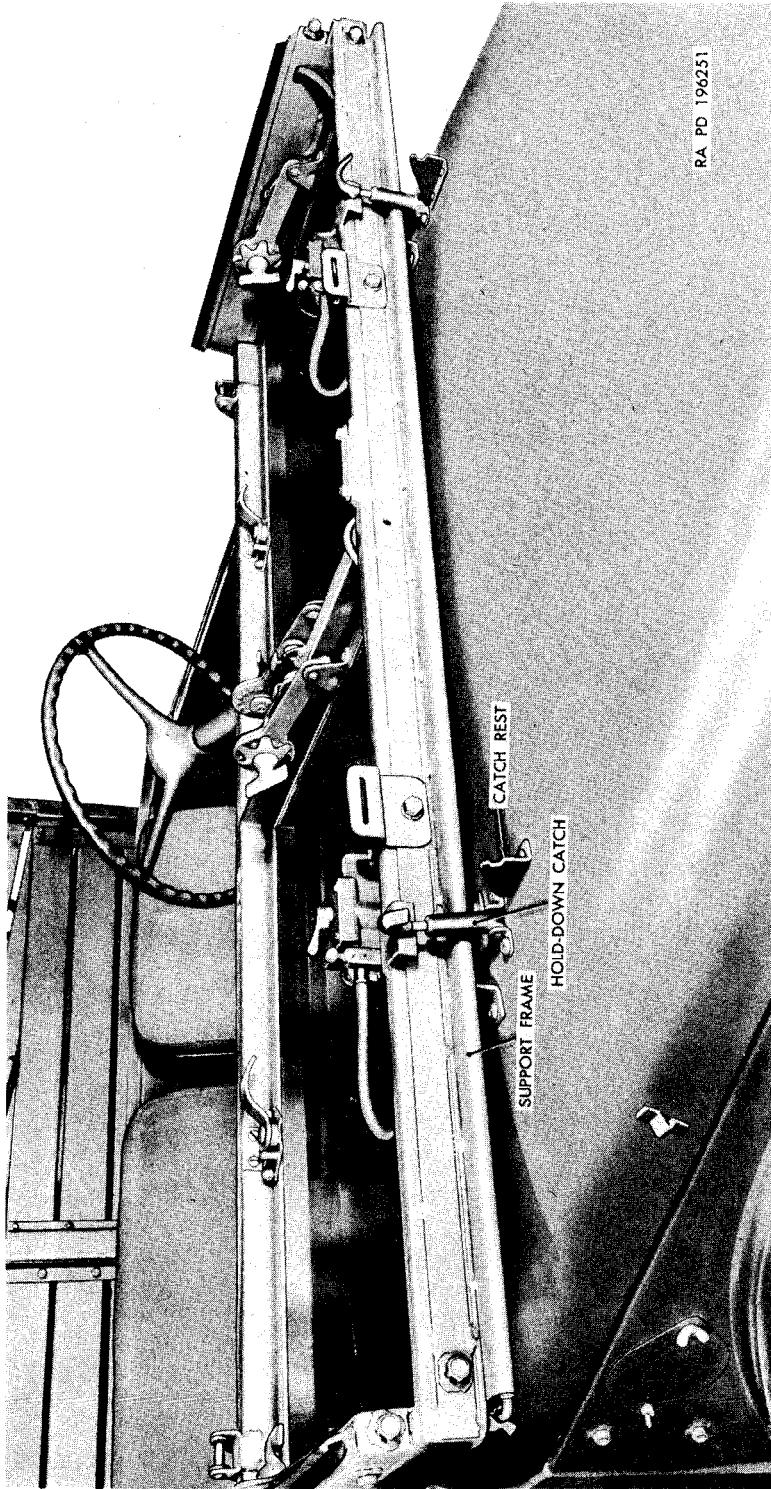

Figure 15. Windshield support frame in lowered position (except ambulance truck M43).
- (1) Remove cab top cover and related parts (par. 265a).
- (2) Disengage the windshield support frame right and left clamp handles. Lower the windshield support frame and engage the windshield holddown catches (fig. 15) in the support frame brackets.
- (1) Disengage the windshield holddown catches from the windshield support frame brackets. Raise the support frame to the upright position and engage the windshield support frame right and left clamp handles (N, fig. 12). Engage the holddown catches in the catch rests (fig. 15).
- (2) Install cab top cover and related parts (par. 265c).